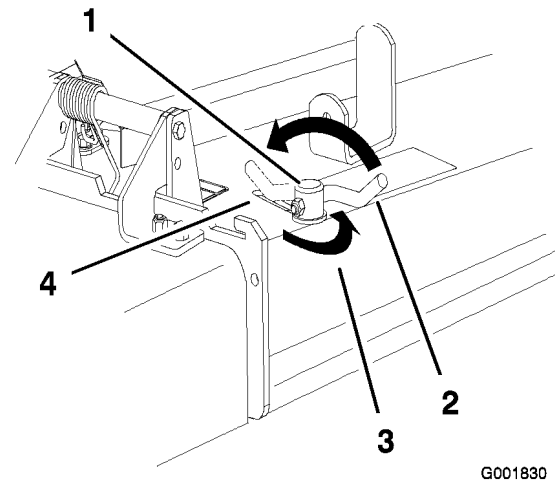

Figure 22
3. To adjust the cam lock, swing the lever up to loosen the cam lock (Figure 22).
5. Swing the lever back over to tighten the baffle and cam lock (Figure 22).